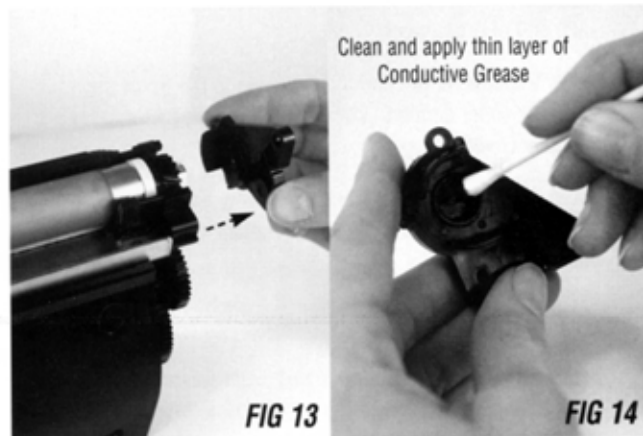

FIG 13
1. Remove the magnetic roller axle covers from each end of the hopper. Lift the magnetic roller, bushings and gear from its housing. (Figure 13)